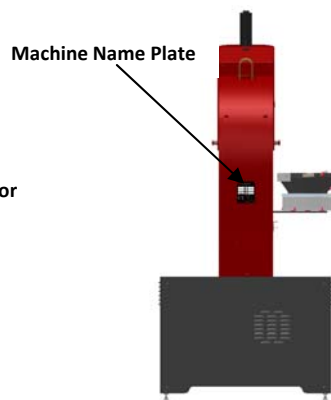

Figure 2.3
1. Check the voltage on the Machine Nameplate, located on the rear of the machine's Main Electrical Cabinet (see Figure 2.3). **!** **MAKE SURE** the machine's incoming shop voltage is the same as the voltage the machine has been wired for. If the voltages do not match, **STOP!** Contact your Haeger Representative for instructions on how to proceed.